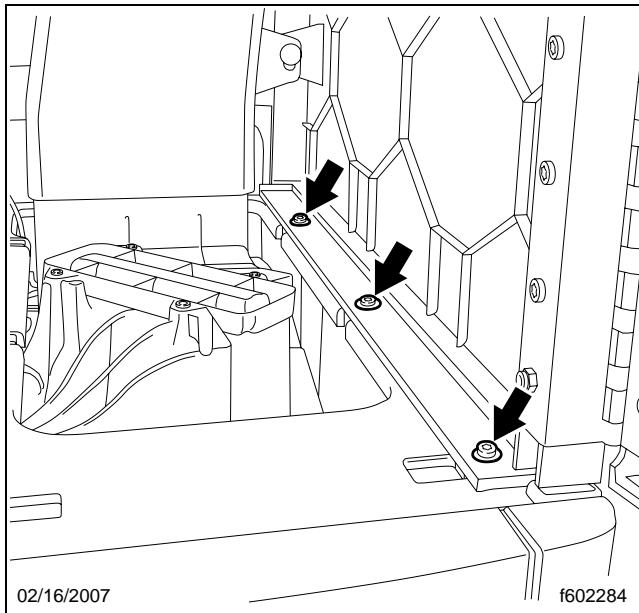
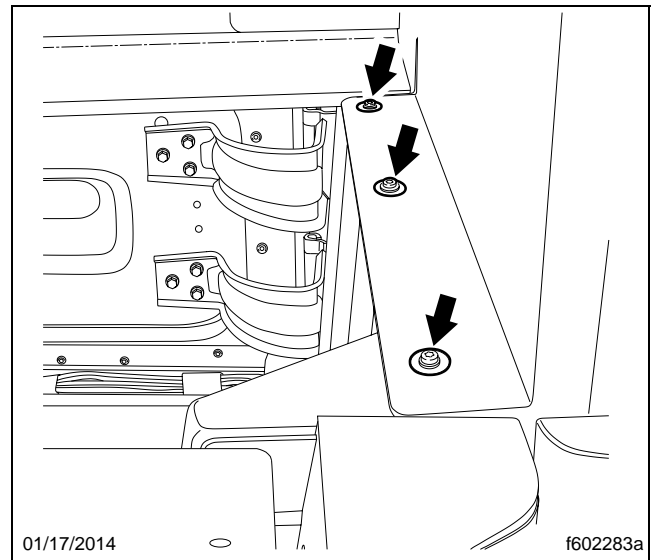

Fig. 21, Upper Cabinet-to-Auxiliary HVAC Housing Fasteners, Inside Cabinet
Fig. 22, Cabinet-to-Auxiliary HVAC Housing Fasteners, Aft Side
- To remove the upper cabinet from the auxiliary HVAC housing, remove the three screws from inside the upper cabinet, and the three screws aft, outside the cabinet. See **Fig. 21** and **Fig. 22**.
1. Install the upper cabinet on top of the lower cabinet or auxiliary HVAC housing, as applicable. To attach the upper cabinet to the lower cabinet, install the six screws and washers inside the upper cabinet. To install the upper cabinet to the auxiliary HVAC housing, install the three screws inside the upper cabinet, and the three screws aft, outside the cabinet. See **Fig. 21** and **Fig. 22**.